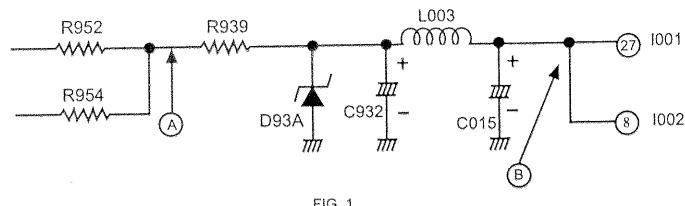

FIG. 1
- (1) Confirm +15V at point (A) (Fig. 1)
- (2) Connect JIG (S) to IN71 (9) and (10) pin as follows.
- (3) Connect frequency counter (F) as follows.
- (1) Confirm 15V at point (A) (see fig. 1.)
- (2) Confirm 12V at point (B) as shown below.
- (3) Connect Q782 Base to GND (same as item 2.5 (5))
- (4) Input signal between PIF1A (4) to PIF1A (5) as follows.